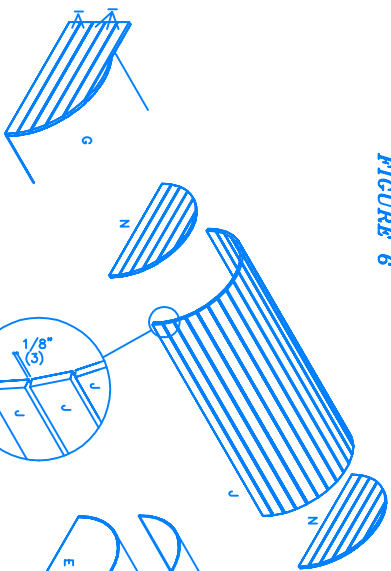

FIGURE 7
- Attach pieces R, J and M to box (Fig 7 & 8). Make a spacer from a piece of scrap 16" long by 1/8" thick to aid in spacing pieces R and J. Glue pieces R to pieces D using the spacer to create the gap between pieces R. Nail pieces R to piece D with 5/8" finishing nails. Set the nails as you go along. Glue pieces J to piece C using the spacer to create the gap between pieces J. Nail pieces J to piece C with 3/4" finishing nails. Note that you may have to trim any excess R using a plane or sandpaper to ensure an even fit. Glue pieces J to piece B using the spacer to create the gap between pieces J. Nail pieces J to piece B with 3/4" finishing nails. Set the nails as you go along. Note that you may have to trim any excess J using a plane or sandpaper. The pocket lid begins by doing the ends first. Starting at the bottom of piece E trace the curve of piece G onto piece R. Cut both ends of piece R a little longer than your mark. Glue and nail piece R to piece E using 5/8" finishing nails. See (Fig 7). Repeat until all pieces R are attached to pieces E. You may have to plane or sand the top piece R to create a flush fit. Set all nails. Starting at the front of this assembly glue and nail pieces J to piece G with 5/8" finishing nails using your spacer to leave a 1/8" space between pieces J. The last piece J may have to be trimmed as previously described. Fill exposed nail and screw holes with a suitable filler and sand. Apply varnish using manufacturer's instructions to exterior of project only.